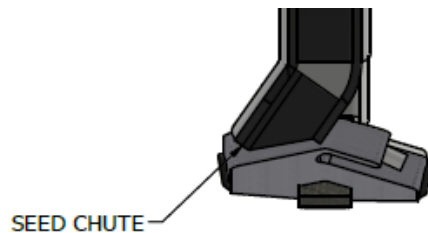

Figure 2: Seed chute on "left" opener
- 1) Bolt openers to shank using the provided $\frac{3}{8}$ " x $2 \frac{1}{4}$ " bolts and nuts. Use the top and bottom holes on both the opener and the shank to mount the opener. Install the provided paralink shim between the opener and the shank. Install the openers with the seed chute pointed to the center of the drill (see Figure 2 below).
High-rate side band liquid and NH₃ openers must be installed with the seed chutes oriented to the center of the drill. A left opener will have the seed chute on the left side as seen in Figure 2.